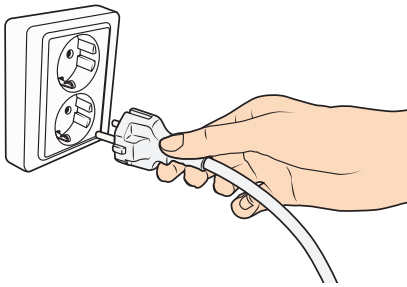

Figure 1
1. Plug the power cord into a power outlet. See Figure 1.